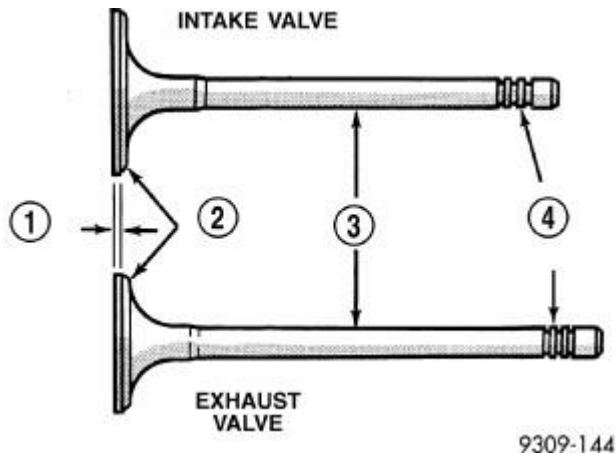

Fig. 296: Intake & Exhaust Valves
1. Measure valve stems for wear approximately 60 mm (2.36 in.) below the valve lock grooves. Refer to **Fig. 296**.
NOTE: Valve stems are chrome plated and should not be polished. Refer to **Fig. 296**.